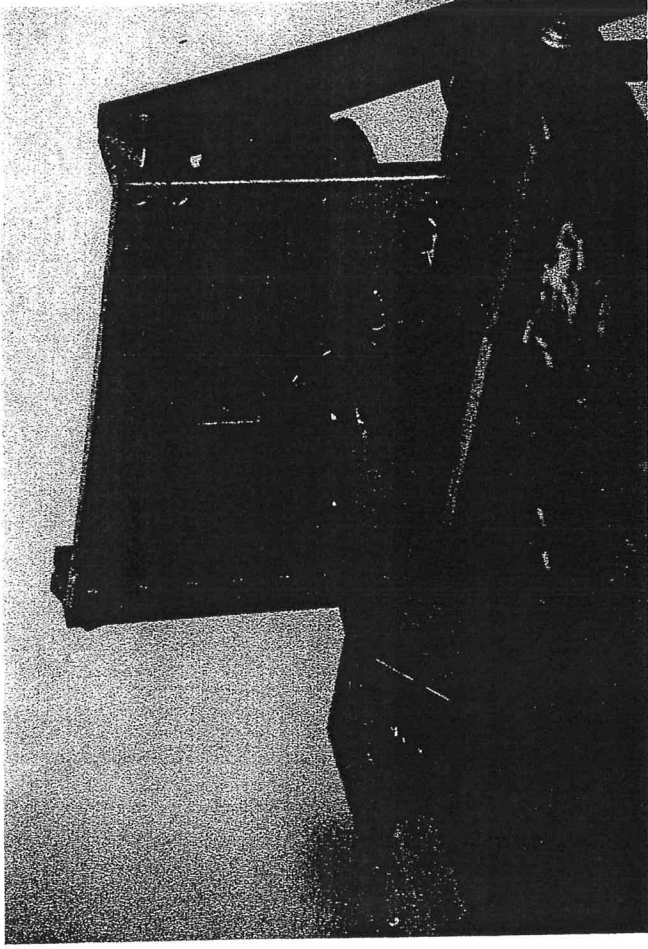

Fig. 13
7. Lower table 10 turns. Make another rabbet cut on the top of piece B in the same manner, leaving the tongue in the center of the board. This will finish the locking tongues. (fig. 13)